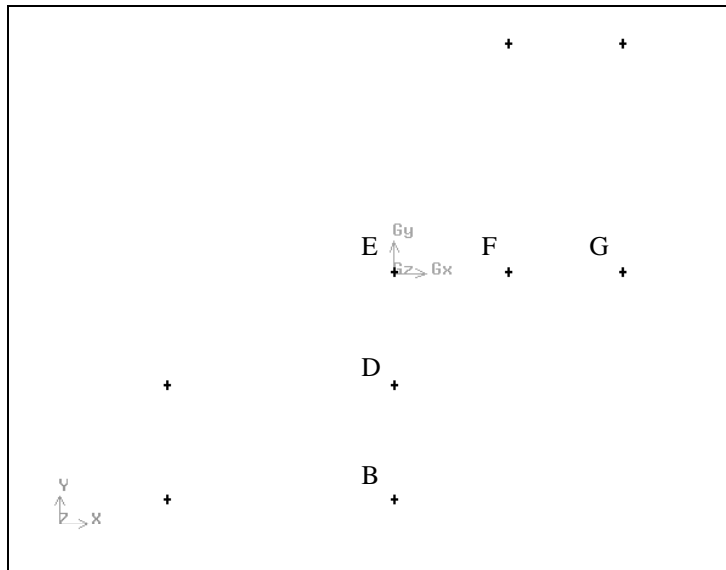

Figure 2-5: Vertices used to create arcs
- b) *Shift-left-click* the vertex in the center of the graphics window (vertex E in Figure 2-5).
- d) *Shift*-left-click the vertex to the right of the center vertex in the graphics window (vertex F in Figure 2-5).
- e) Select the vertex directly below the one in the center of the graphics window (vertex D in Figure 2-5).
2. Repeat the above steps to create a second arc. The center of the arc is the vertex in the center of the graphics window (vertex E in Figure 2-5). The endpoints of the arc are the vertices to the right and below the center vertex that have not yet been selected (vertices G and B, respectively, in Figure 2-5). The arcs are shown in Figure 2-6.